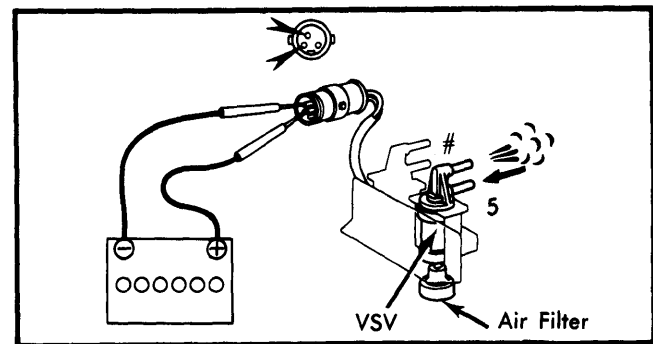

Fig. 3 Testing Vacuum Switching Valve
- 9) Remove vacuum switching valve (VSV). Connect valve to battery as shown in Fig. 3. Blow into pipe "5", checking that air comes out pipe "#". Disconnect battery. Blow into pipe "5", checking that air comes out air filter.